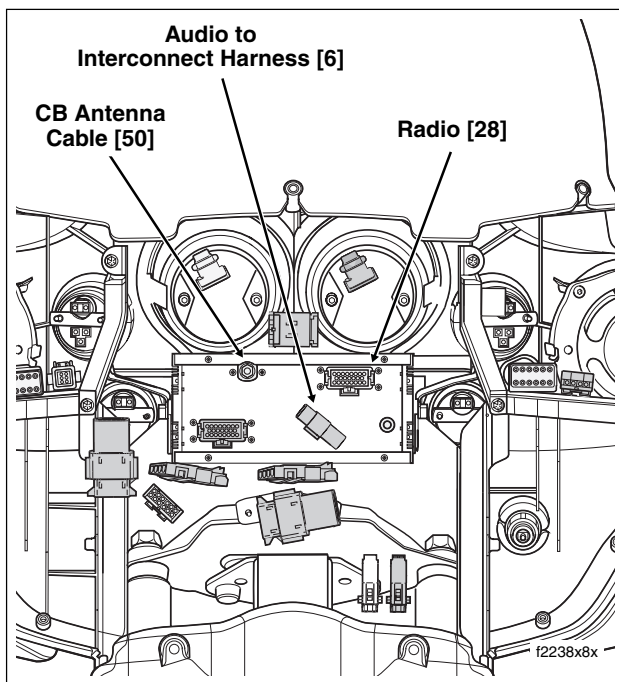

Figure 8-173. Audio Harness Connectors
6. See Figure 8-173. Disconnect pin and socket halves of the following connectors:
2. See Figure 8-173. Standing at front of motorcycle, mate pin and socket halves of the following wire harness connectors: